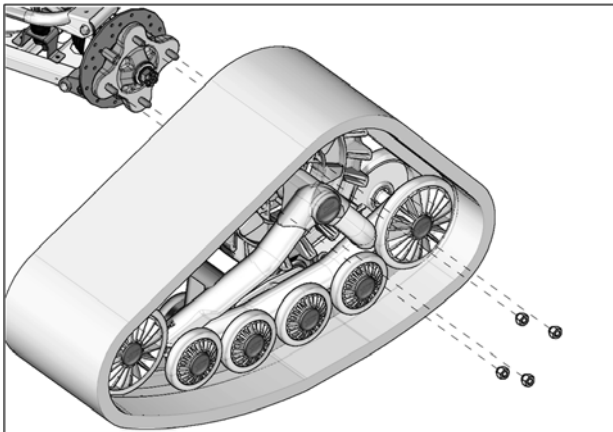

Fig. 6
7. Secure undercarriage to rear hub using the vehicle's lug nuts. See Fig. 6
6. Using the vehicle's lug nuts, secure undercarriages to front wheel hubs. The procedure and precautions are the same as for rear units. Refer to Fig. 6